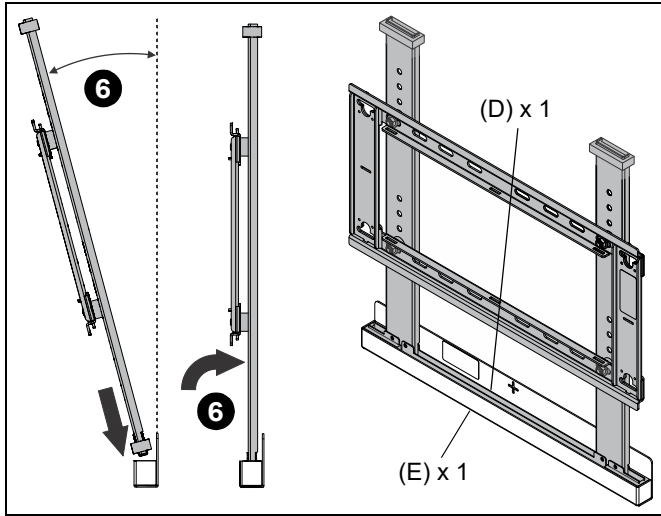

Figure 4
6. Insert bottom edge of the assembled frame into lower wall bracket (E) at an angle. Once in place, rotate the upper edge of the frame towards the wall until frame rests flat against the wall. (See Figure 4)